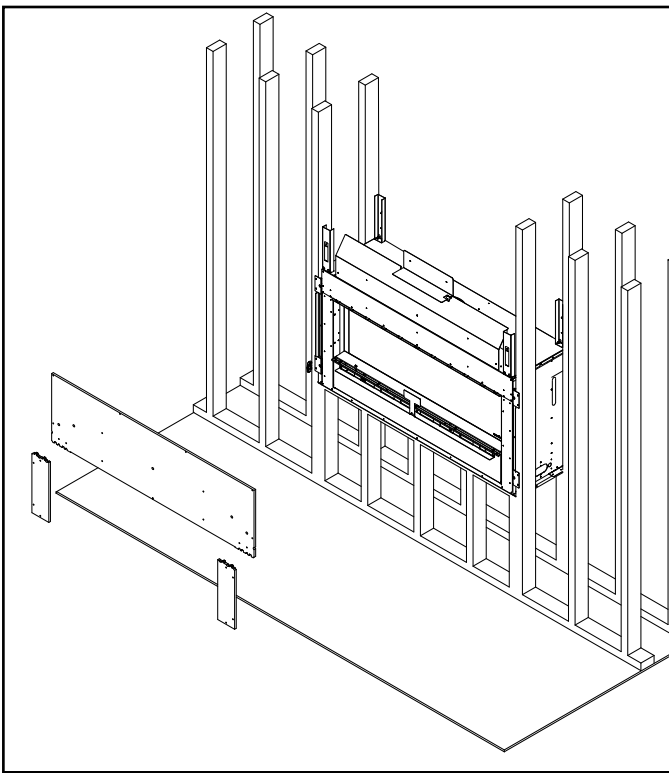

Figure 6.8 Install Factory-Included Non-Combustible Facing Material
- Attach top board to the framing members with regular sheetrock screws or nails. See Figure 6.8.